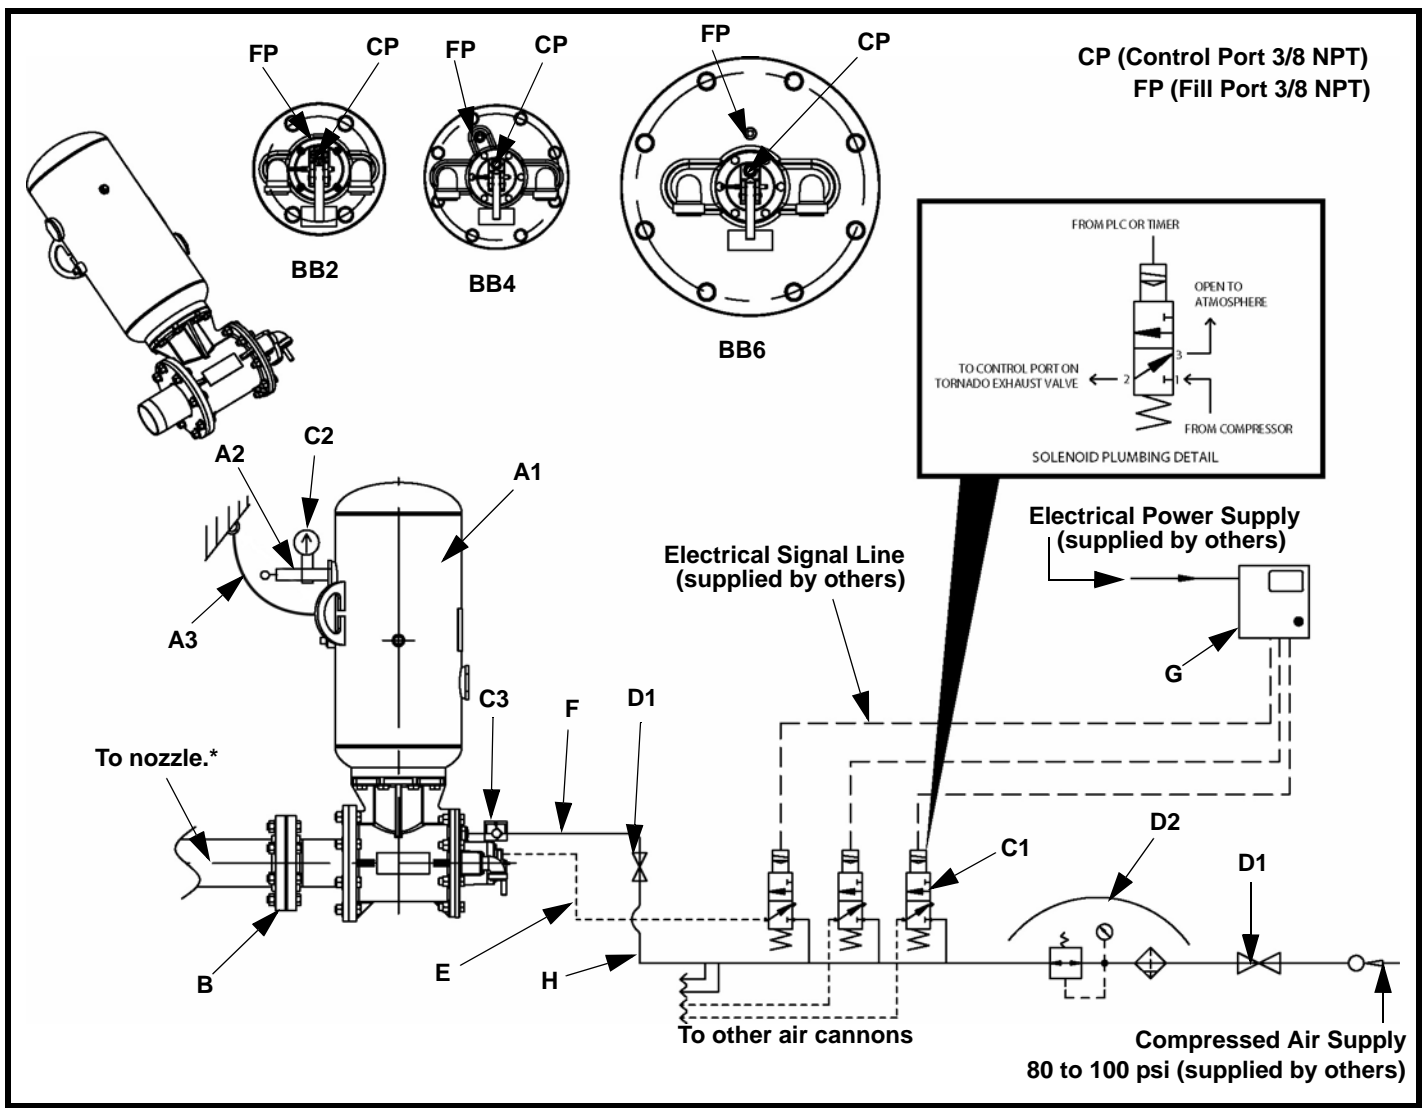

Figure 13. Plumbing Detail for Normally-Closed Solenoid Valve
- b. If using a normally-closed solenoid valve, connect the 3-way electric solenoid valve outlet port (2) to MARTIN[®] TORNADO Exhaust Valve control port. See Figure 13.